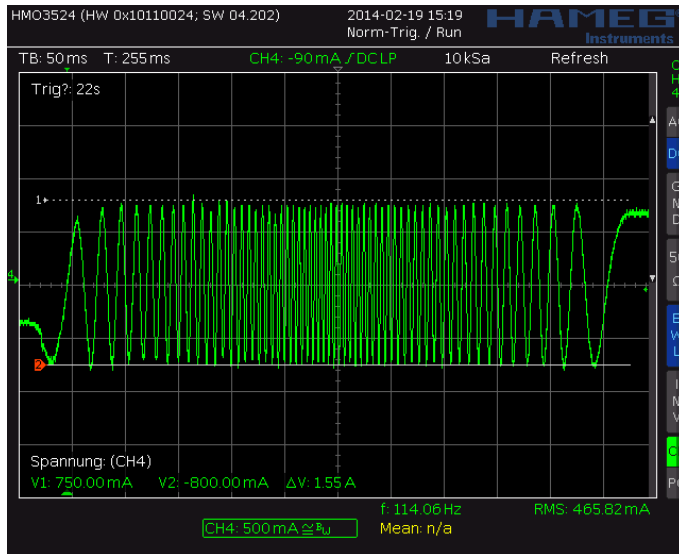
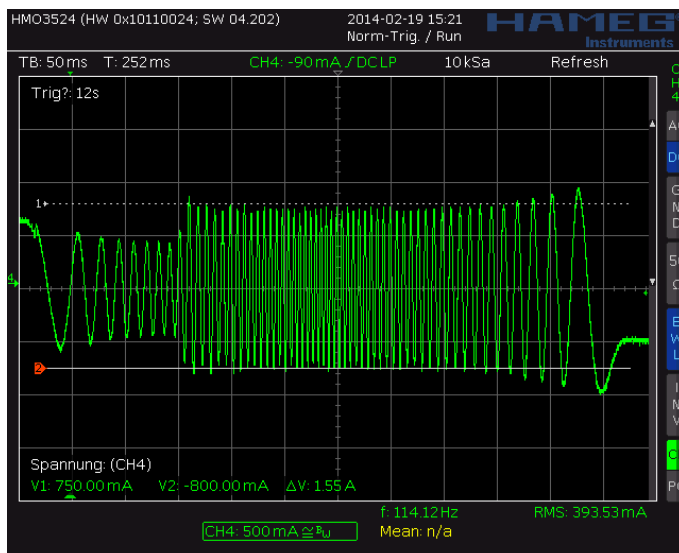
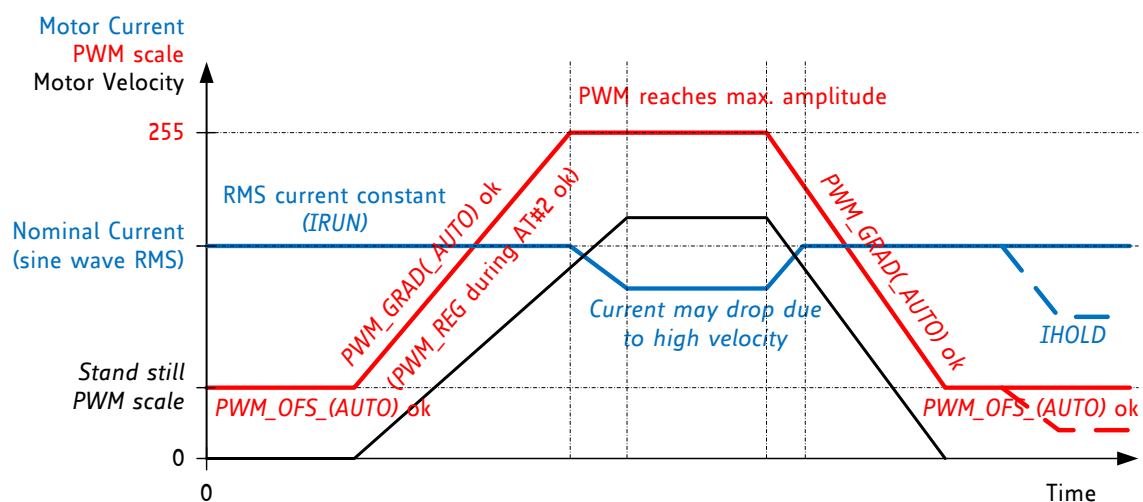

Figure 6.3 Scope shot: good setting for PWM\_REG
Figure 6.4 Scope shot: too small setting for PWM\_REG during AT#2
Figure 6.5 Successfully determined PWM\_GRAD(AUTO) and PWM\_OFS(AUTO)
In StealthChop voltage PWM mode, the autoscaling function (*pwm\_autoscale* = 1, *pwm\_auto\_grad* = 1) regulates the motor current to the desired current setting. Automatic scaling is used as part of the automatic tuning process (AT), and for subsequent tracking of changes within the motor parameters. The driver measures the motor current during the chopper on time and uses a proportional regulator to regulate *PWM\_SCALE\_AUTO* in order match the motor current to the target current. *PWM\_REG* is the proportionality coefficient for this regulator. Basically, the proportionality coefficient should be as small as possible in order to get a stable and soft regulation behavior, but it must be large enough to allow the driver to quickly react to changes caused by variation of the motor target current (e.g. change of *VREF*). During initial tuning step AT#2, *PWM\_REG* also compensates for the change of motor velocity. Therefore, a high acceleration during AT#2 will require a higher setting of *PWM\_REG*. With careful selection of homing velocity and acceleration, a minimum setting of the regulation gradient often is sufficient (*PWM\_REG*=1). *PWM\_REG* setting should be optimized for the fastest required acceleration and deceleration ramp (compare Figure 6.3 and Figure 6.4). The quality of the setting *PWM\_REG* in phase AT#2 and the finished automatic tuning procedure (or non-automatic settings for *PWM\_OFS* and *PWM\_GRAD*) can be examined when monitoring motor current during an acceleration phase Figure 6.5.